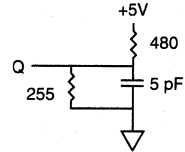

Fig. 2 OUTPUT LOAD EQUIVALENT
6. ^tHZCE, ^tHZOE and ^tHZWE are specified with CL = 5pF as in Fig. 2. Transition is measured ±500mV from steady state voltage.
12. Chip enable (CE) and write enable (\overline{WE}) can initiate and terminate a WRITE cycle.